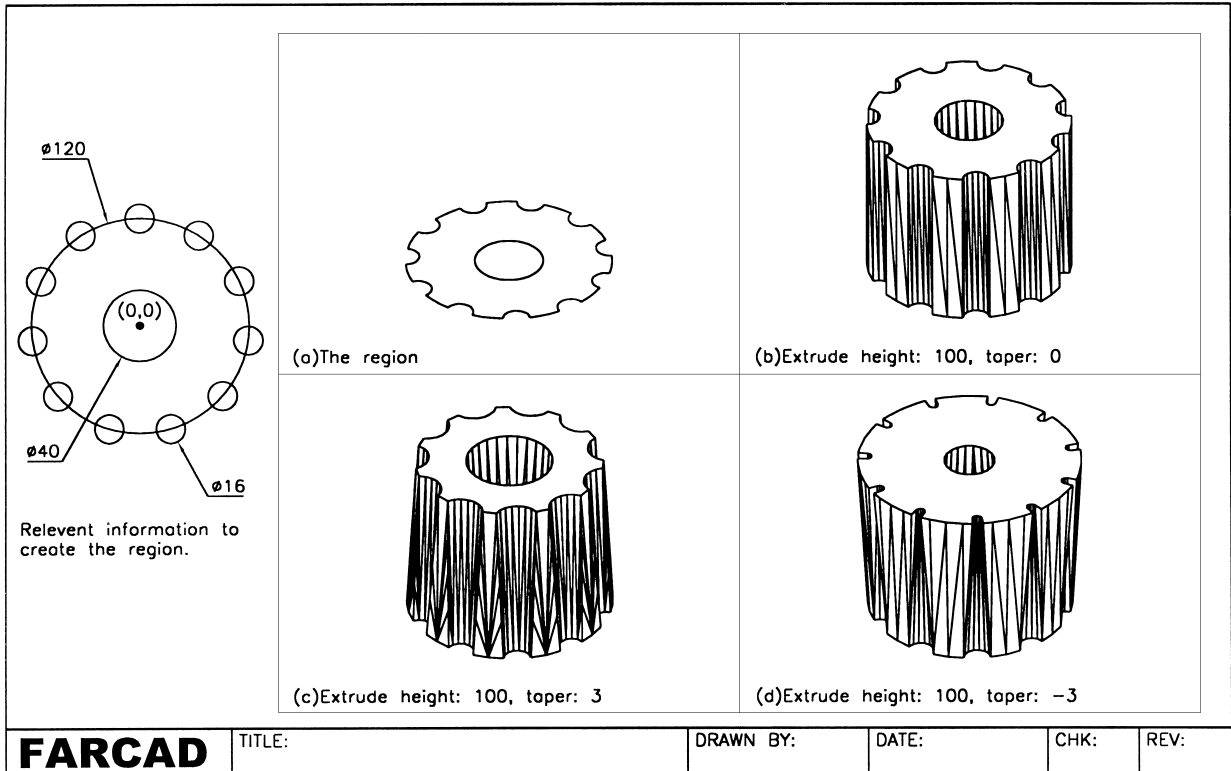

Figure 36.1 Region example 1 – an extruded component.
- 2 Refer to Fig. 36.1 (which only displays the 3D viewport) and create the layout from three circles having diameters 120, 40 and 16. The actual layout is your design but use the 0,0 point as indicated.